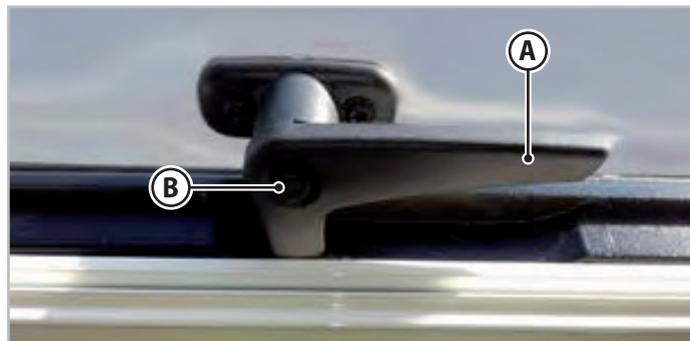

Fig.6.2 - Window locking lever
1. Press the safety button (**B** - Fig.6.2) on the locking levers (**A** - Fig.6.2).
2. Release all the locking levers (**A** - Fig.6.2), placing them in the vertical position.
3. Attach all the locking levers (**A** - Fig.6.2), placing them in the closed position.
4. Check that the safety button (**B** - Fig.6.2) has been released.